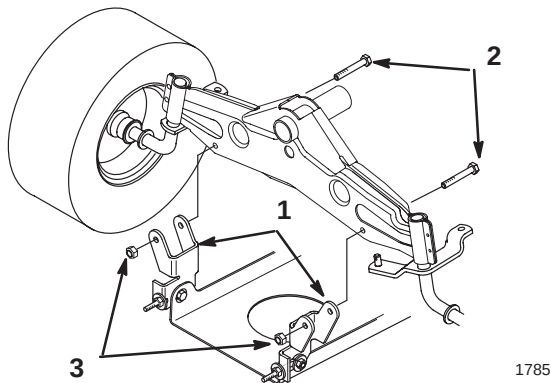

Figure 6
4. Install the mower pivot mount brackets onto the front axle with the bolts and locknuts (Fig. 6).